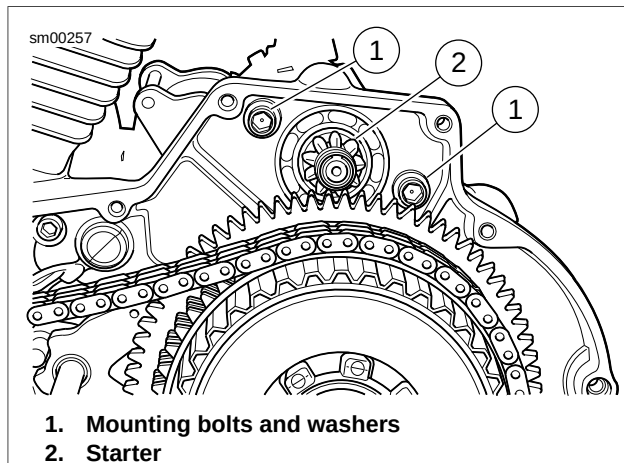

Figure 5-1. Starter Mounting
5. See Figure 5-1. Remove two starter mounting bolts and washers (1).